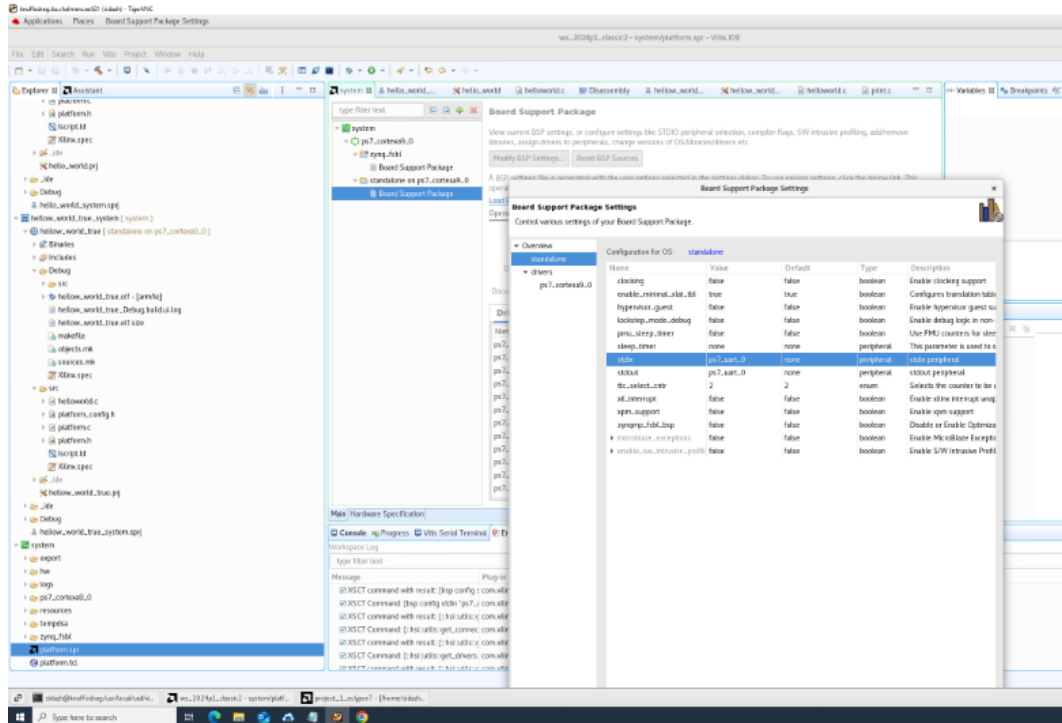

Figure 6: stdin and stdout configuration in Vitis
1. In Vitis (after exporting the .xsa file from Vivado and creating the platform and application component, of course), make sure that the BSP settings for the standalone configuration for the OS are set to ps7_uart_0 for the stdin and stdout. See Figure 6.